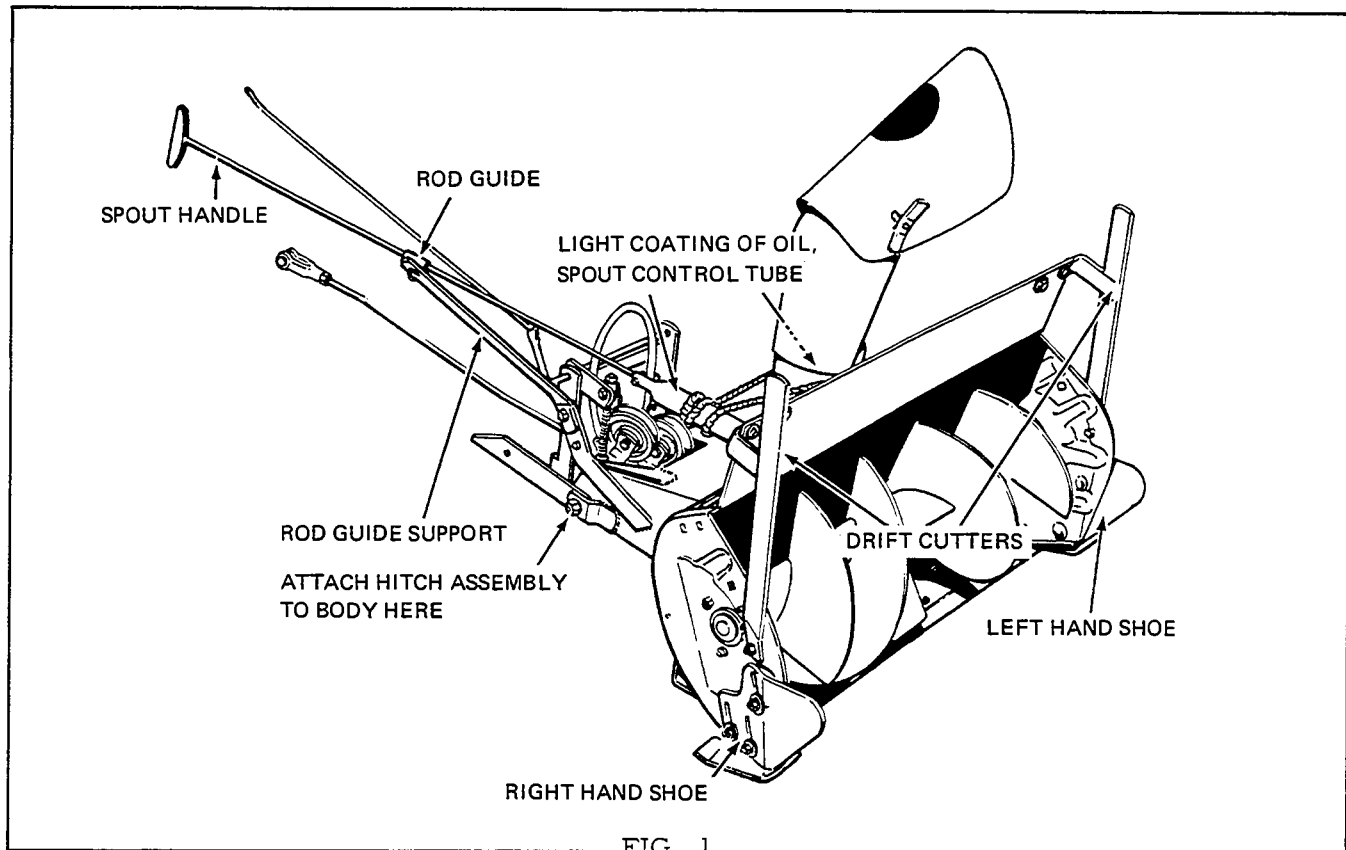

FIG. 1
1. Attach left and right hand shoe to body assembly with 3/8-16NC-3/4 long carriage bolt, 3/8 plain and 3/8 lockwasher. Secure with 3/8-16NC hex full nut, which is on outside of shoe at desired elevation for your specific needs. (See Fig. 1).
2. Attach left and right hand drift cutters to outside of body assembly with 5/16-18NC-3/4 long hex capscrews, 5/16 plain and 5/16 lockwashers. Secure with 5/16-18NC hex full nut. (See Fig. 1).
3. Attach hitch assembly to rotor body assembly with 3/8-24NF-1-1/2 long hex head bolt, 3/8 plain and 3/8 spring washer. Secure in place with 3/8-24NF hex full locknut. (See Fig. 1).
10. Apply a light coating of oil to neck of discharge spout. Install spout and extension as shown. (See Fig. 1).
11. Attach rod guide support to top hole of lift rod bracket with 3/8-16NC-1/4 long capscrew, 3/8 lockwasher and 3/8-16NC hex full nut. DO NOT TIGHTEN. (See Fig. 1).
12. Insert handle assembly into spout control tube assembly and secure with 5/32" x 1" long cotter pin. Insert spout control tube assembly into bearing and secure in place with 2-1/8" x 3/4" long cotter pins. Insert handle assembly through rod guide. Tighten 3/8-16NC hex full nut on rod guide support which is in top hole of lift for bracket, at desired angle of operator while on seat. (Fig. 1)